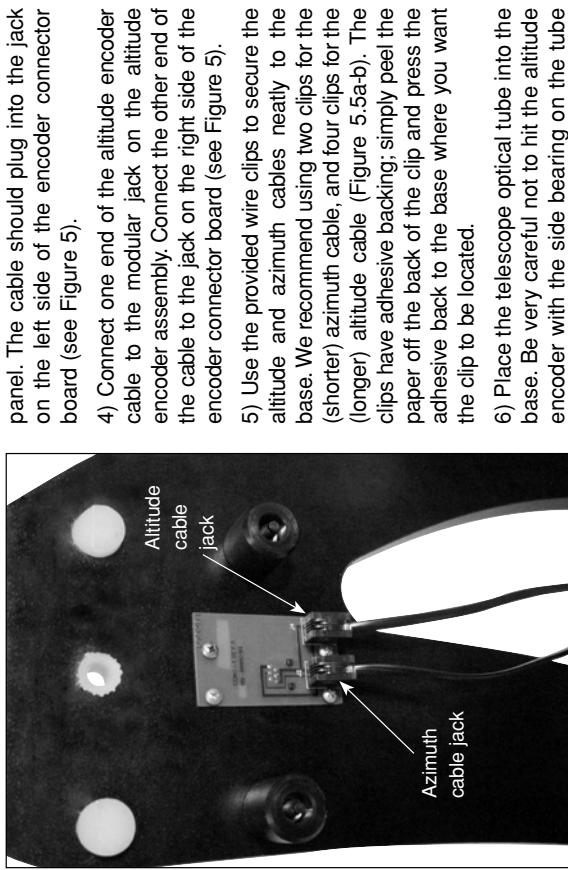

Figure 5. The azimuth cable plugs into the jack on the left of the encoder connector board. The altitude cable plugs into the jack on the right.
- panel. The cable should plug into the jack on the left side of the encoder connector board (see Figure 5).
- 4) Connect one end of the altitude encoder cable to the modular jack on the altitude encoder assembly. Connect the other end of the cable to the jack on the right side of the encoder connector board (see Figure 5).